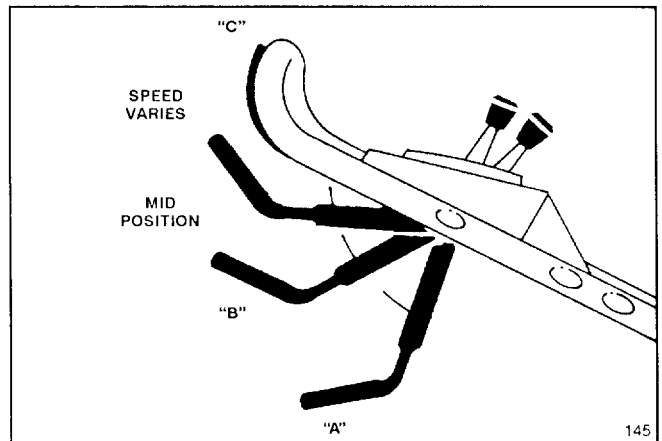

Figure 7
(Fig. 7) — Move control bar down to "A" and raise to "B" to engage blade. Squeeze control bar against handle "C" to drive. Ground speed varies, depending on space between control bar and handle. To disengage traction drive but keep blade engaged, gradually release control bar to mid position. To self-propel with blade disengaged, simply squeeze control bar against handle, eliminating downward movement necessary for blade engagement.
7. **STOPPING** (Fig. 7) — Release control bar to stop blade and traction drive. Move ground speed control to "N". To stop engine, move throttle to OFF. Remove key from switch on electric start model or pull wire off spark plug if mower will be unattended or not used.